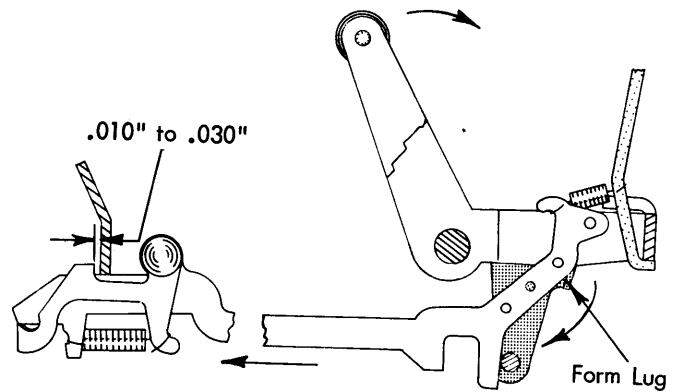

FIGURE 111. Interposer Restoring Bail Adjustment
8. Interposer Restoring Bail - Form the lug at each side of the restoring bail so that the interposers will be restored forward .010" to .030" past the latching point (Fig. 111) when either cam is operated. Be sure to check the interposers at each side and form the lug on the side being checked.